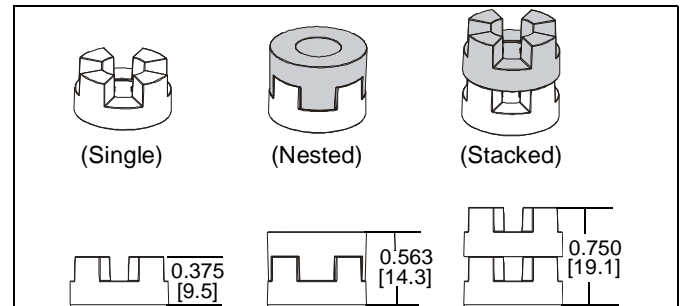

Figure 15
NOTE: The nesting spacers (M) may be used separately, or put two together in different configurations to create different size spacers. (See Figure 15)